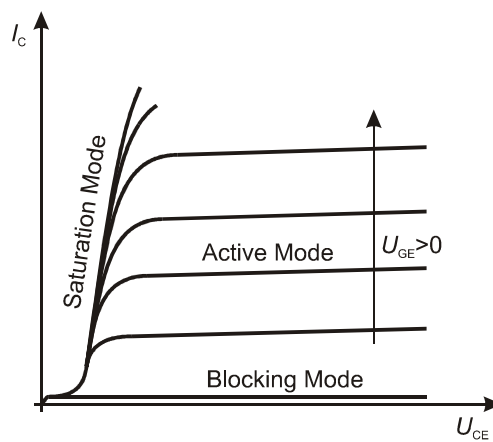

Fig. 6. Static forward output characteristic of an N-channel IGBT with operating modes labelled
- collector polarity with respect to the previously selected common terminal (emitter) appropriate for the forward blocking and conduction states of an N-channel IGBT (see Fig. 6 if in doubt): *Polarity [A4]* = appropriate setting + (positive) or – (negative).